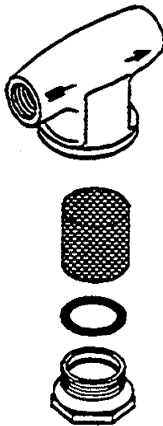

Figure 4-1. Water Strainer Assembly
2. Unscrew the filter cap from the bottom of the strainer. Refer to Figure 4-1.